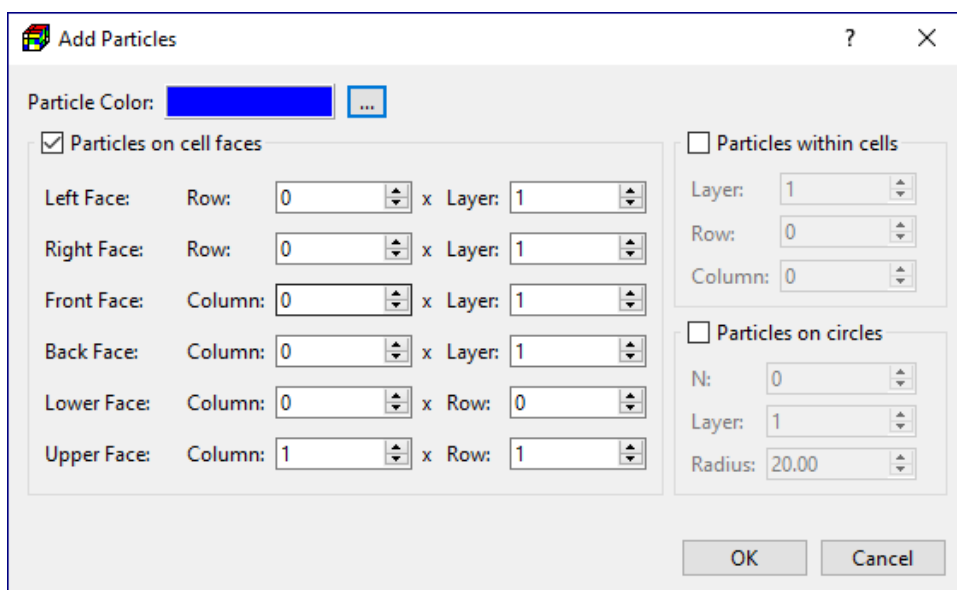

Figure 15. Adding particles on cell faces with the Add Particles dialog box
- Release the left mouse button. The Add Particles dialog box appears. Assign the settings and numbers of particles to the dialog box as shown in Figure 15.